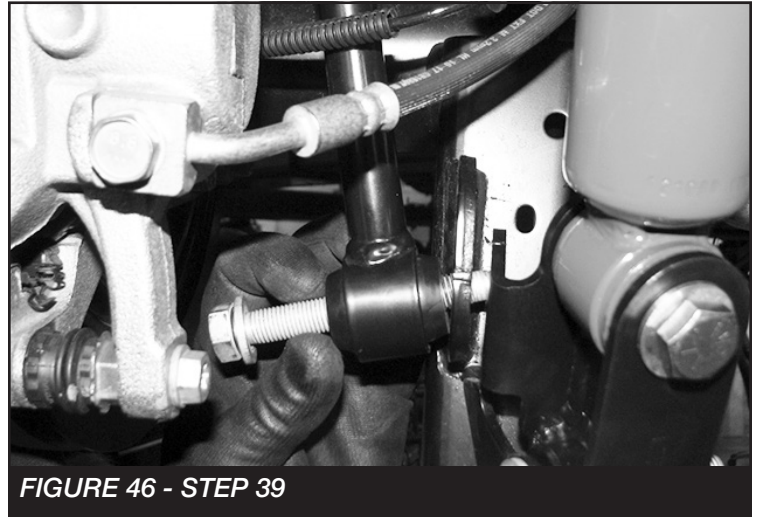

FIGURE 46 - STEP 39
39. Install the FT50048 (Bushings) and FT404739 (Sleeves) into FT50026BK (Rear sway bar links). Then, install the new links to the the sway bar and sway bar mount on the axle using the factory hardware. Torque to 100 ft-lbs **SEE FIGURE 46**